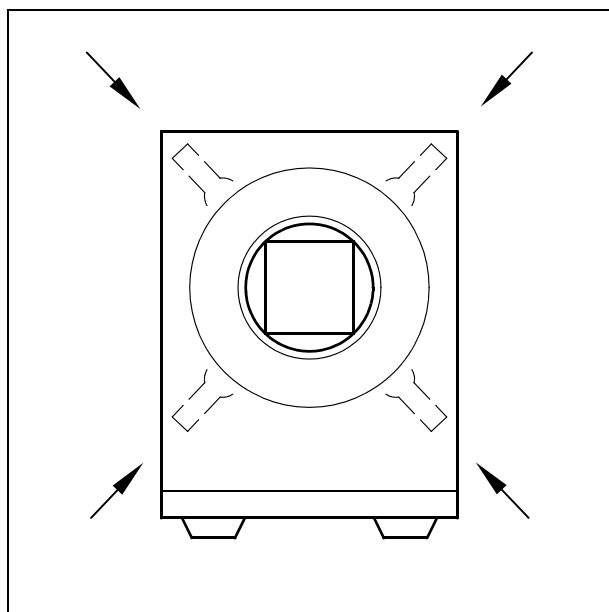

Fig. 18
- If the deviation is larger, loosen the 4 Allen screws a little ( arrow /Fig.18/19) and shift the collimator accordingly.
After adjusting the collimator, tighten the screws again (arrow / Fig.18/19).